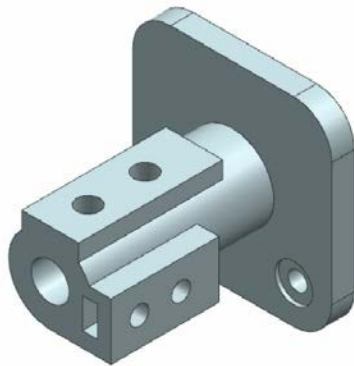

Figure 6-107 The model after creating one counterbore hole
- g. Create four counterbore holes in the base feature using the **Hole** tool, refer to Figures 6-107 and 6-108.
6. Choose the **OK** button from the dialog box; the counterbore hole is created, as shown in Figure 6-107.